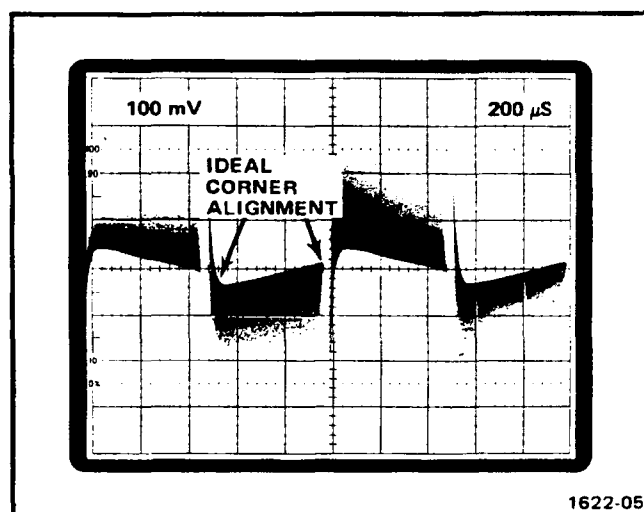

Fig. 2-1. Representation of complex waveform (idealized) with 5 volt reference amplitude at 0.05 MHz, properly set.
d. Set the time-base triggering controls for a stable display; a crt display similar to Fig. 2-1 is obtained.
e. Check—that the corners of the idealized waveform are aligned as illustrated in Fig. 2-1, within 1.5 vertical divisions. Disregard waveform tilt.